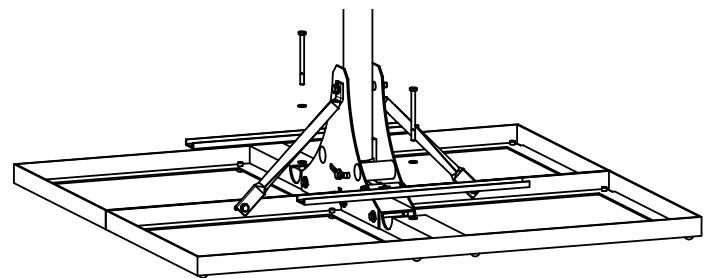

Fig. 8: Attaching the rails for securing the concrete slabs
- Fix the two rails to secure the concrete slabs on both sides, depending on the height of the concrete slab using the M8 x 50 or M8 x 100 screws (Fig. 8).